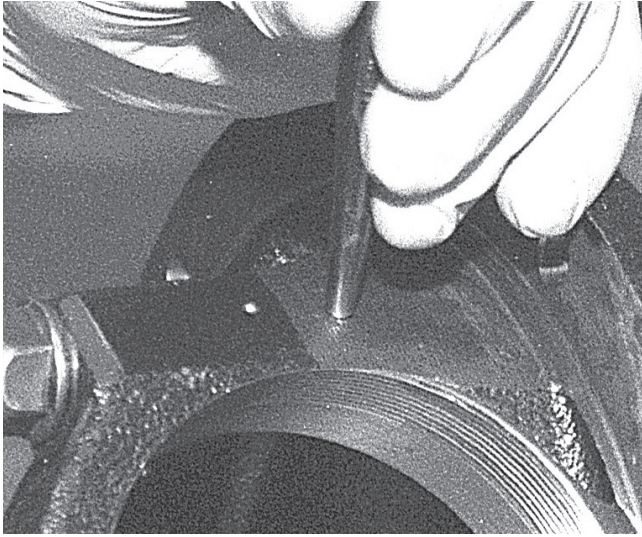

Figure 1-A
- Using a punch, mark one of the bearing caps so you can remember which side it belongs to. Bearing caps are specific to each side of the housing. ***This is very important for re-assembly. Figure 1-A***